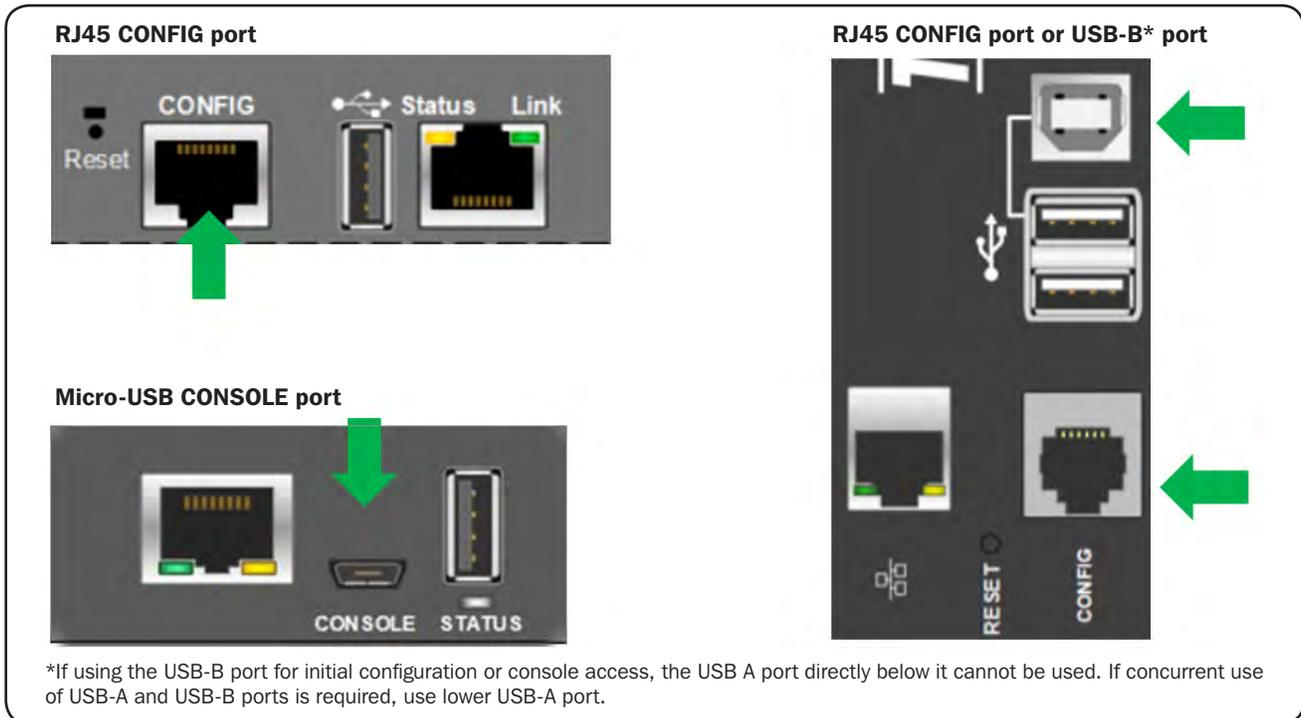

Figure 2-1: Configuration ports on LX Platform Devices
- B. Connect a USB or serial cable between the PC and the appropriate port on the LX Platform device; this will be either the Micro-USB port labeled "CONSOLE" or the RJ-45 port labelled "CONFIG". See Figure 2-1.
- B. Using the serial or USB cable that shipped with your WEBCARDLX or LX Platform device, connect the PC to the appropriate port on the LX Device. See Figure 2-1.